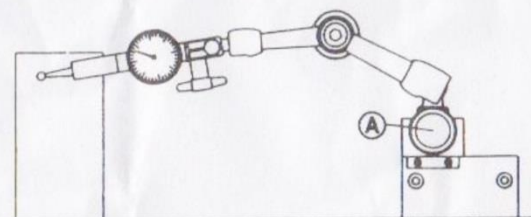

Fig. 3 NOGAFLEX in position for fine adjustment. (Vertical surface).
5. Fig3 shows Sleeve "B" rotated 90° Tightening Screw "A" now causes the indicator to move horizontally until contacting the vertical surface